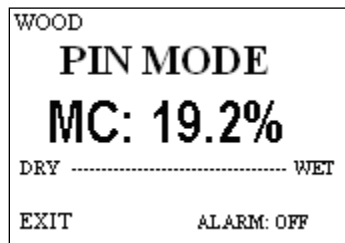

Figure 1 Keypad Layout
The meter uses an on-screen, menu-driven approach to navigate through the meter features, allowing for an intuitive understanding of keypad functions. Each screen presents the user with a number of selectable options. One of the options is always selected and the user can move (navigate) the selection to any other available option. The keypad is aimed at providing navigational control, and not at accessing specific features. There are four directional keys aligned intuitively around a middle (fifth) key (see Figure 1): Above (UP), below (DOWN), to the right (RIGHT) and to the left (LEFT). The middle key is used to SELECT the option highlighted on the screen. For purposes of this owner's manual, the five keys will be referred to as ⇐ ⇨ ↑ ↓ and SELECT.